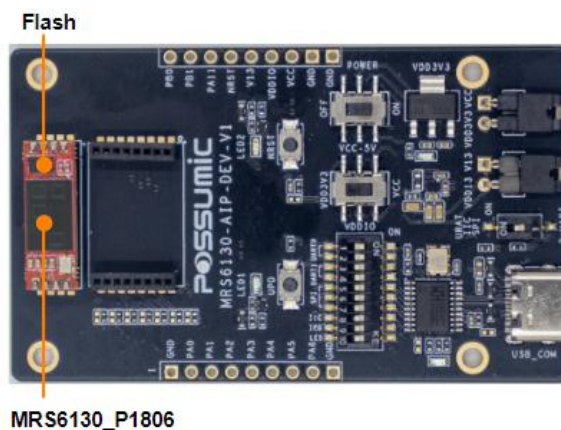

Figure 2-2 Hardware Connection Between the MRS6130-P1806 Module and Development Board
- (1) With power disconnected, insert the module daughterboard into the baseboard slot. Observe the following precautions:
- For the MRS6130_P1806, observe the insertion orientation shown in Figure 2-2.
- (2) Install jumper caps on VCC Supply and V13 Supply. Set the one-position Mode Select DIP switch to OFF. Set positions 1 through 3 of the UART0/UART1/SPI/IIC Select DIP switch to ON. Set VDDIO Supply to VDD3V3 and 5V Supply to ON.
- (3) Supply power to USB COM through USB. The orange power LED illuminates.